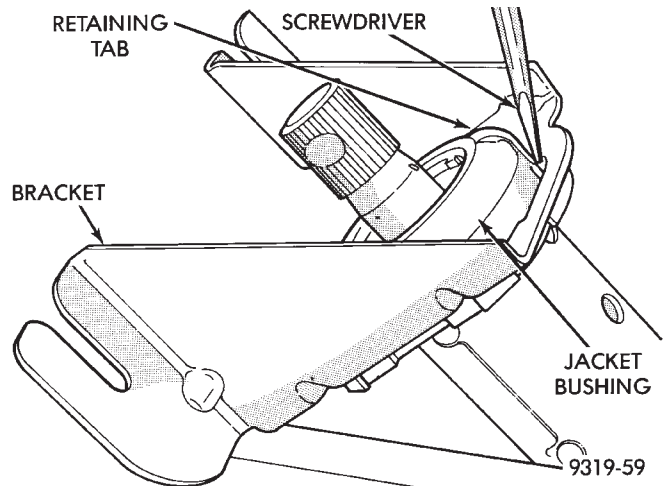

Fig. 4 Bracket Removal From Jacket Bushing
(3) Separate steering column bracket from jacket bushing, by depressing retaining tabs on bushing and sliding bracket off bushing (Fig. 4).